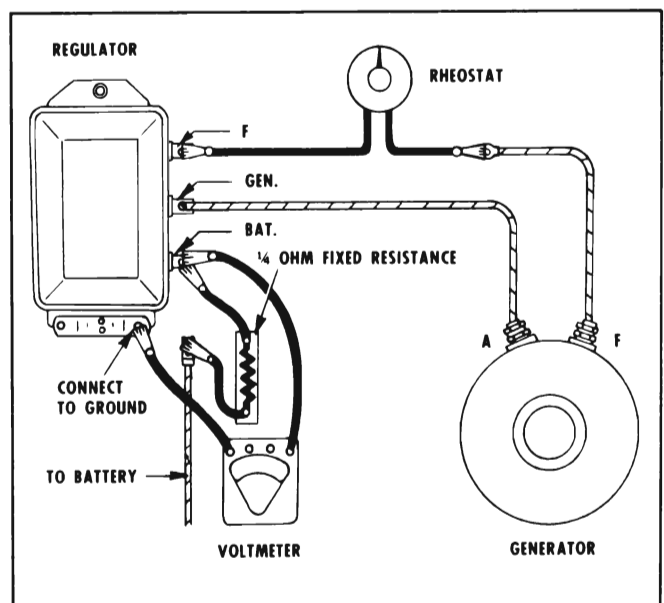

Figure 10-16—Testing Voltage Regulator
3. Connect a 1/4 ohm fixed resistor into charging circuit at "BAT" terminal of regulator. See Figure 10-16.
a. Connect a variable resistance into field circuit at "F" terminal of regulator and turn control knob to position for least resistance (direct connection). See Figure 10-16.